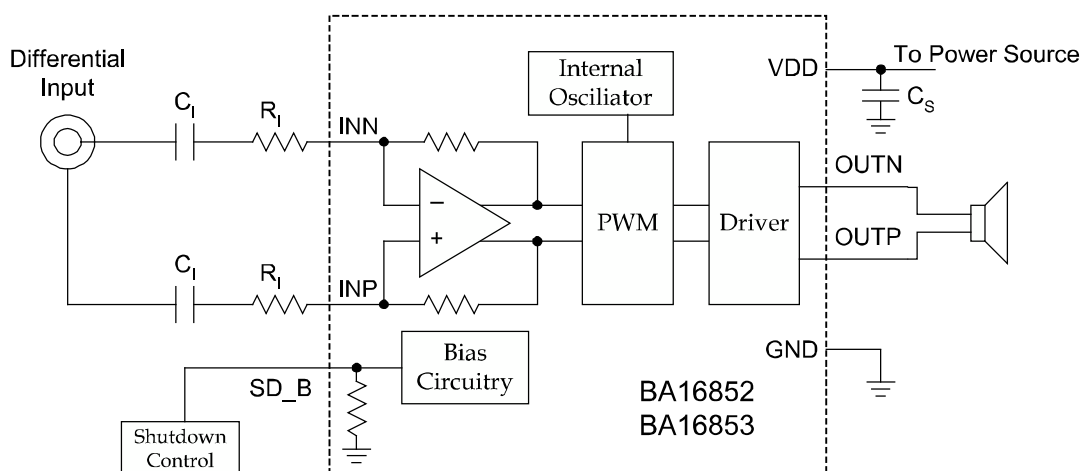

Figure 28. Differential Input Configuration with Input Capacitors
The input capacitor may be needed for some applications or when the source is single-ended (See Figure 28). This capacitor can block the DC voltage at the amplifier input terminal and create a high-pass filter with the input resistor R_I . The cut-off frequency of high-pass filter is according to Equation (2)
The input capacitors can be used in a differential configure as show in Figure 28. The input capacitor C_I with input resistor R_I can create a high-pass filter. The cut-off frequency of high-pass filter is according to Equation (2). Equation (1) above is used to determine the value of the R_I resistors for a desired gain.